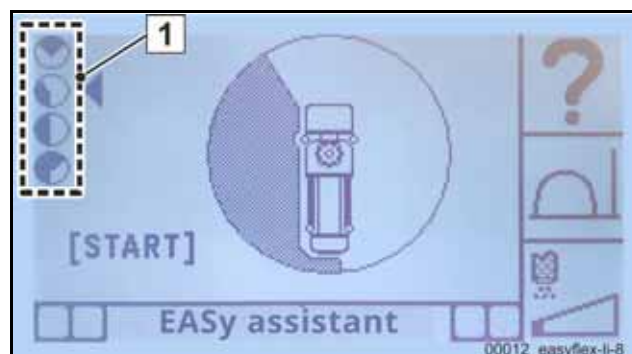
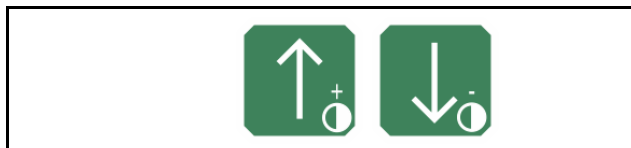

Fig. 447 Example selection: EASy "left"
Fig. 448
The EASy assistant detects the selected position and indicates the next step (**Fig. 447**):
- Using the arrow keys (9 and 10 **(Fig. 448)**), select one of the symbols (1;**(Fig. 447)**) for the required EASy variant.
For example, the EASy variant EASy "left" is selected in **(Fig. 447)**.